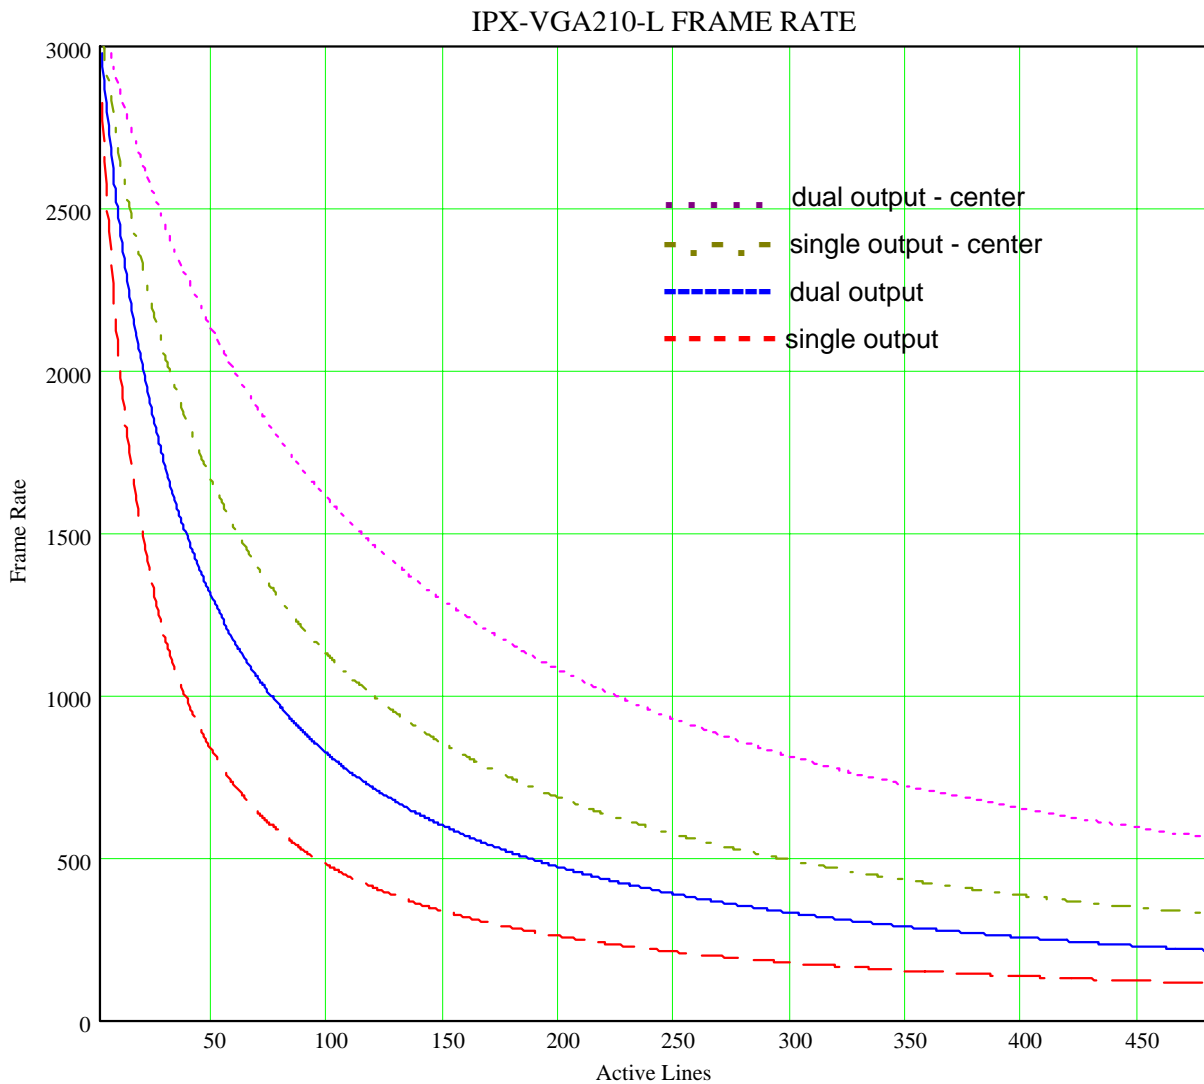

**Figure 2.27 - Frame Rate vs. Vertical Window Size (IPX-VGA120-L)**
The resulting frame rate (FR) for each camera can be approximately calculated using formulas 2.1a – 2.1f, where WS is the window size. The window size is the number of lines in the window (WS = ‘End Line’ – ‘Start Line’ + 1). Figure 2.27 – 2.32 show a graphical representation of the formulas.